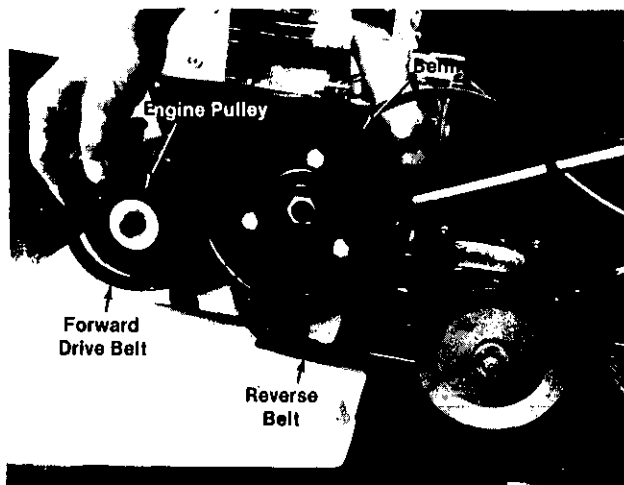

FIGURE 33.
2. Push the shift lever forward and lift off belt from variable speed pulley and engine pulley. See figure 33.